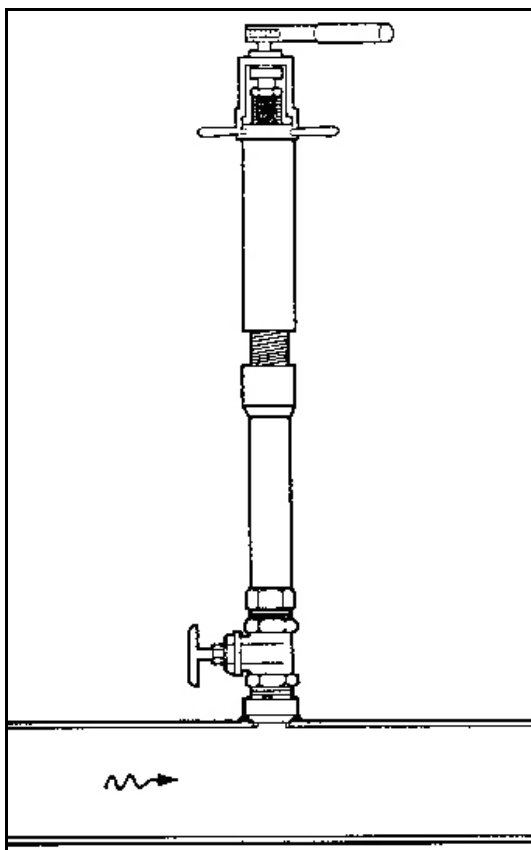

Fig 10
6. Fasten special adapter flange nipple to unit isolating valve (see fig 10)